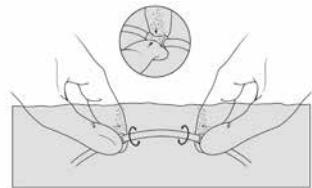

Figure 20
1. Prepare the catheter by soaking it in sterile saline, and squeeze the air out of the cuffs by rotating the submerged cuffs between fingers (Figure 20).